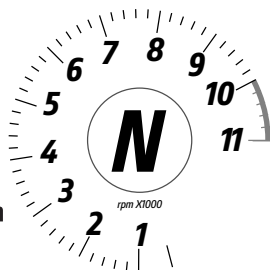

Fig 86
Once the DPL level is set, the instrument panel shows the wait screen for 2 seconds (Fig 85): during this time, if you press the ENTER button (3), the wait phase is interrupted and the instrument panel displays the main screen and sets the DPL to OFF. Then the instrument panel shows the "assisted launch" screen (Fig 86).